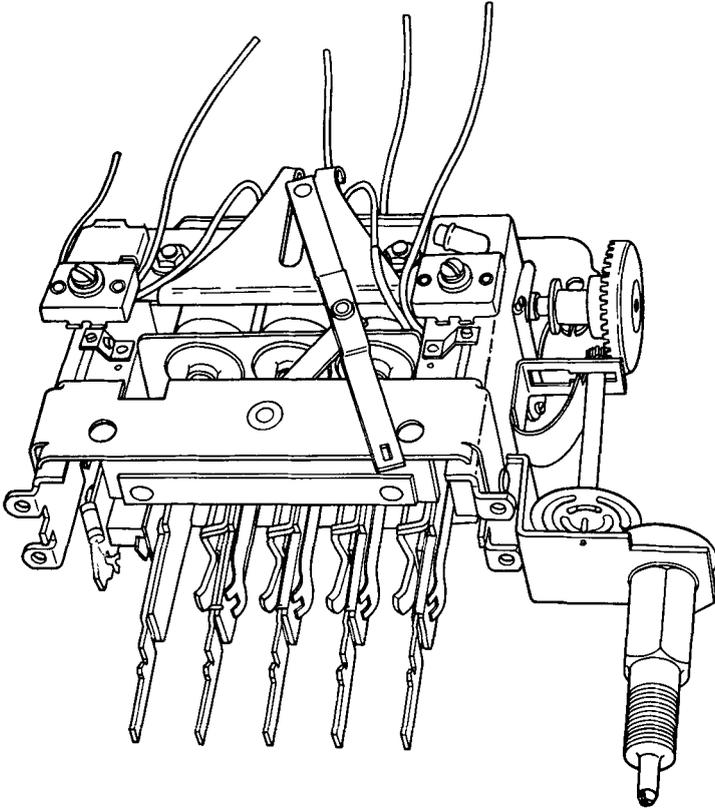

FIG. 15-16. Mechanical automatic permeability tuner.
**Mechanical automatic permeability tuners.** The Motorola Tuner AT-84, illustrated in Fig. 15-16, is a push-button control of associated permeability tuners. It is similar to the rocker-bar arrangement just described, except that powdered-iron cores are inserted to different extents in the antenna, RF, and oscillator coils by the depression of each of the buttons.